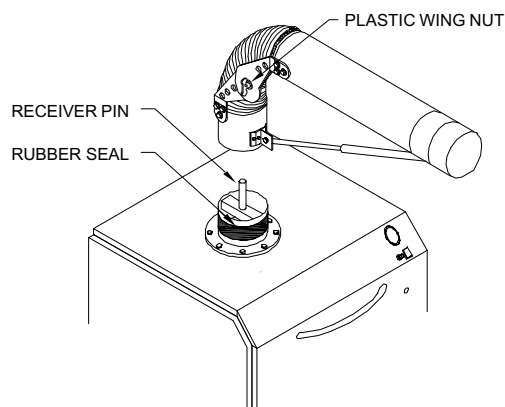

FIG. 1
4. Install arm assembly onto base unit (See **FIG. 1**).